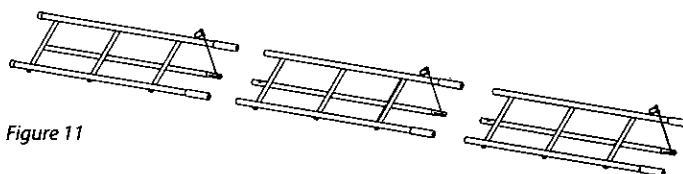

Figure 11
17. With all sections assembled together on ground, secure all sections together using (3) provided spring lock pins. **SEE FIGURE 11.**